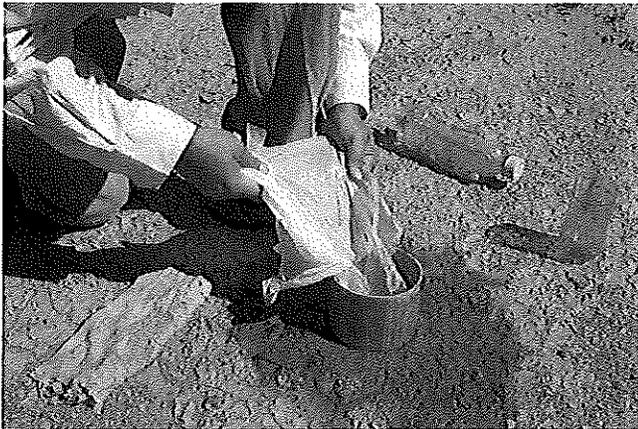

Figure 8.5. Add 370 ml water, using plastic sheet.
6. Add water to the ring without disturbing the soil surface (Fig. 8.5).
- 6.2 Pour sufficient water onto the sheet to bring the water depth to approximately 3 cm (1.25 in) and gently pull out the plastic sheet (Fig. 8.5). For a 12.5 cm ring, this is 370 ml water.